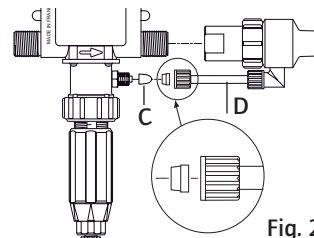

Fig. 2
In order to use corrosive concentrates, the external injection model DOSATRON is also delivered with an external injection hose (Fig. 2-D).
**IMPORTANT !** - Do not put the suction tube strainer on the bottom of the stock solution container. The strainer must be suspended at least 10 cm [4"] above the bottom of the tank to avoid sucking up the insoluble particles that may damage the injection assembly (Fig.2).